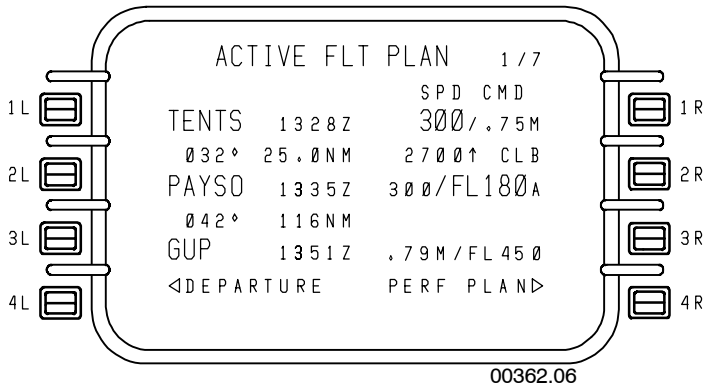

Figure 7-23
- D The current speed command is displayed on page 1 of the ACTIVE FLT PLAN. This is shown in Figure 7-23.